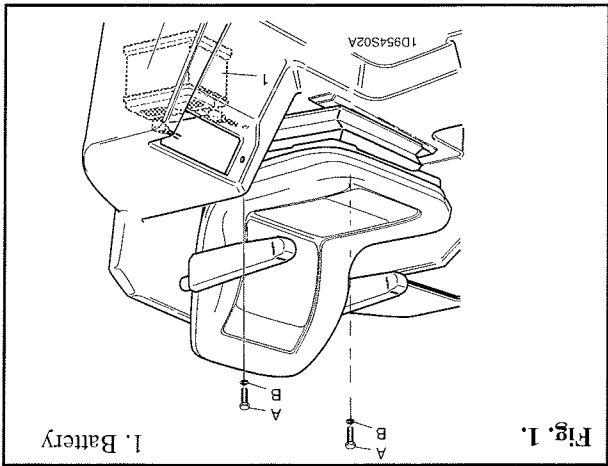

Fig. 1.
3. Remove the M16 securing bolts and washers, (items A & B) and raise the operator platform. Refer to Fig 1.